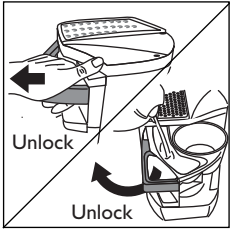
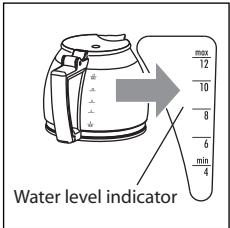

fig. 1
fig. 2
- Open the door by pulling the handle (fig. 1) and by using the jug pour fresh water into the water compartment up to the level corresponding to the number of cups you want to make. Check the water level viewer. It is recommended to use the provided carafe as the measure, as the maximum volume of the carafe corresponds to that of the water tank (fig. 2).